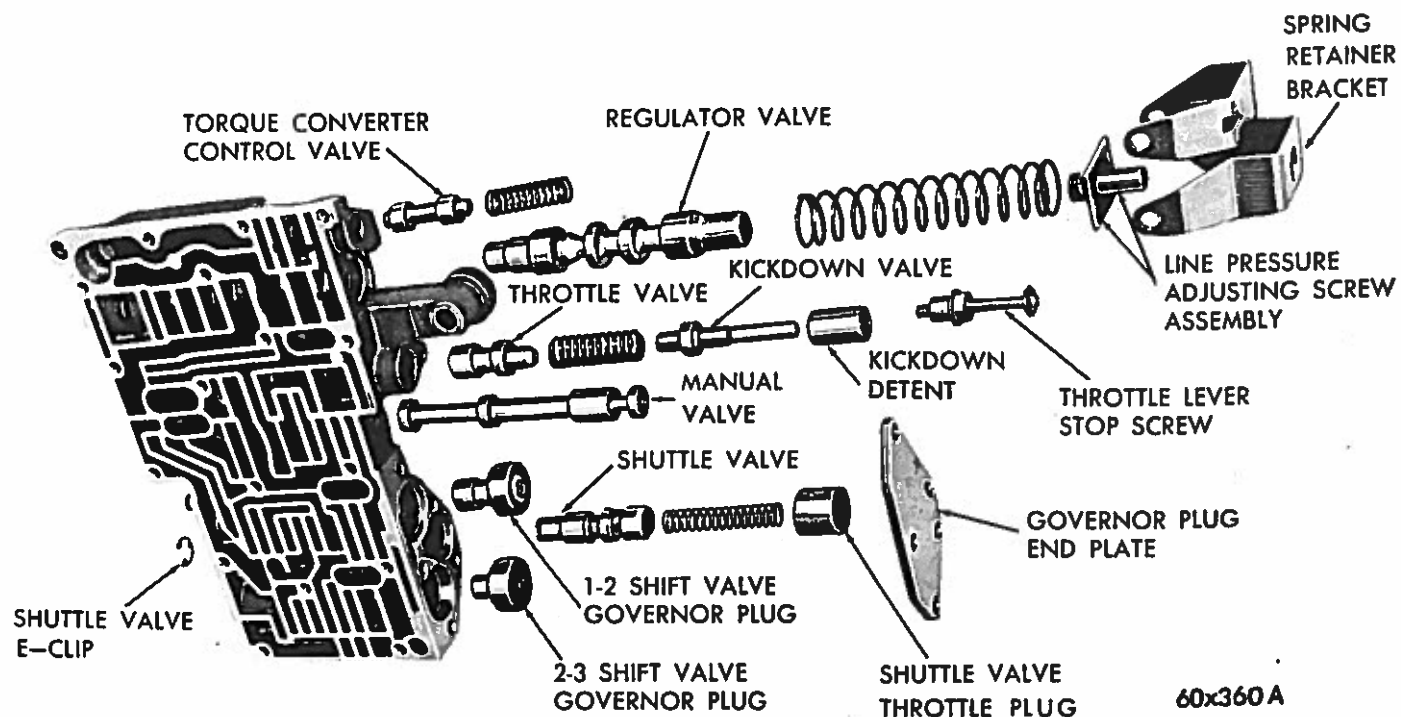

Fig. 54—Valve Body-Lever Side (Exploded View)
(13) If necessary, remove throttle lever stop screw assembly (Fig. 54), be careful not to disturb the setting any more than is necessary.
(14) Remove kickdown detent, kickdown valve, throttle valve spring and the throttle valve (Fig. 54).
(15) Remove governor plug end plate (Fig. 54). Tip up the valve body to allow the shuttle valve throttle plug, spring, shuttle valve, and the shift valve governor plugs to slide out into your hand.
(3) Place the 1-2 and 2-3 shift valve governor plugs in their respective bores (Fig. 54). Install shuttle valve, spring and shuttle valve throttle plug. Install governor plug end plate and tighten the four retaining screws to 28 inch-pounds torque.
(7) Install the throttle valve and spring (Fig. 54). Slide the kickdown detent on kickdown valve (counterbore side of detent toward valve), then install the assembly in the valve body.
(8) Install throttle lever stop screw (Fig. 54), and tighten lock nut finger tight.
(9) Install manual valve in the valve body (Fig. 54).
(13) Position transfer plate assembly on the valve body. Hold front pump check valve in its bore with a thin steel scale. Install the 14 retaining screws, starting at the center and working outward, tighten screws to 28 inch-pounds torque.
(14) Install the torque converter valve and the regulator valve and spring retainer ring (Fig. 54).
(15) Position torque converter valve spring and regulator valve spring over ends of their respective valves. Place line pressure adjusting screw assembly on end of regulator valve spring with long dimension of nut at right angles to the valve body (Fig. 54).